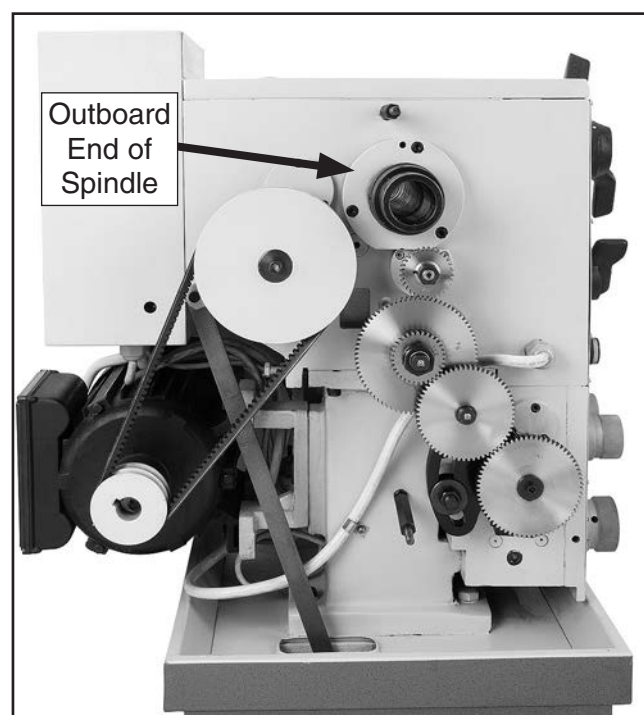

Figure 99. Location of outboard end of spindle.
3. Remove the chuck and spider bolts, then shift the spindle to neutral and remove the headstock gear cover to access the outboard end of the spindle (see **Figure 99**).